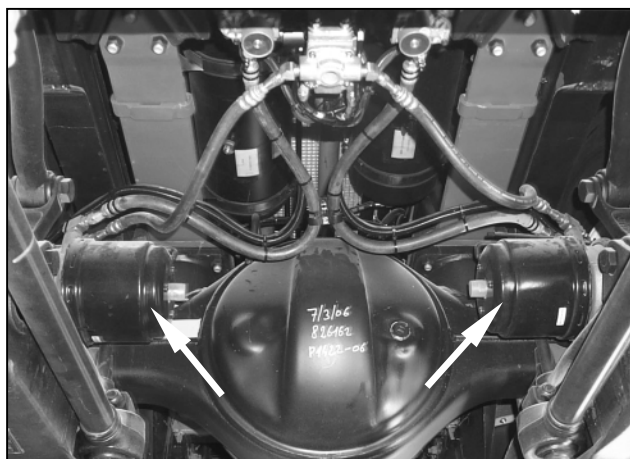

Figure 1: Wabco 925.460.237.0 replaces Knorr BS9487
1. In production, spring brake assembly VH 10691325 (Knorr) has been phased out and has been replaced by assembly VH 10700275 (Wabco) – see Figure 1.